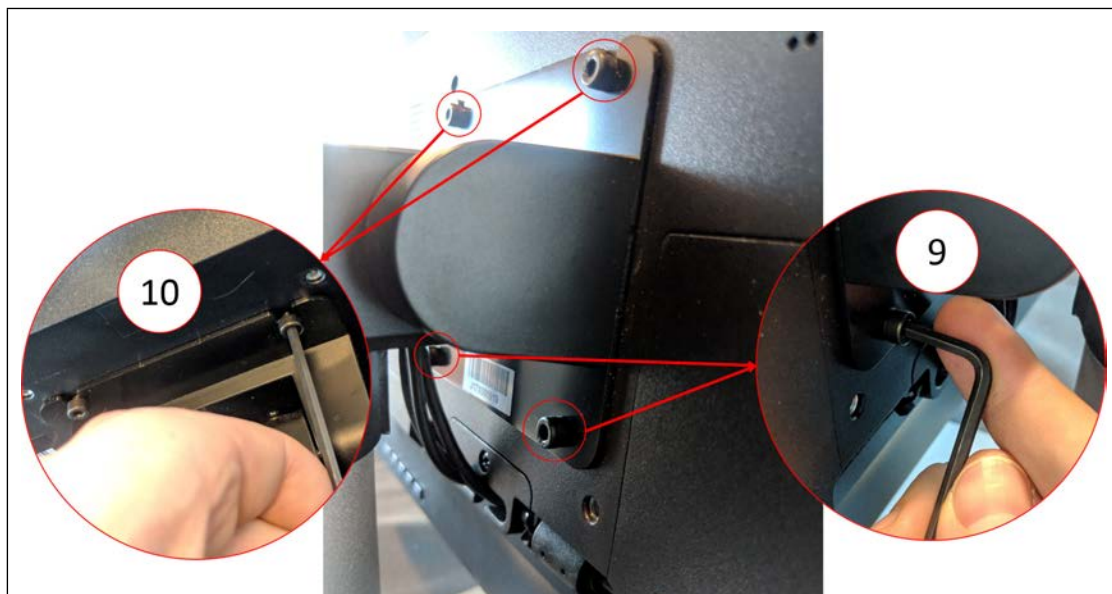

Figure 15-15 Removal of the Monitor Screws
11. Use a 4 mm right angle Allen key or hex wrench to remove the two bottom socket cap screws from the retaining plate that secures the touch monitor to the pedestal. Refer to callout 9 in Figure 15-15.
12. Use the 4 mm right angle Allen key or hex wrench to loosen the two top socket cap screws from the retaining plate that secures the touch monitor to the pedestal. Refer to callout 10 in Figure 15-15.